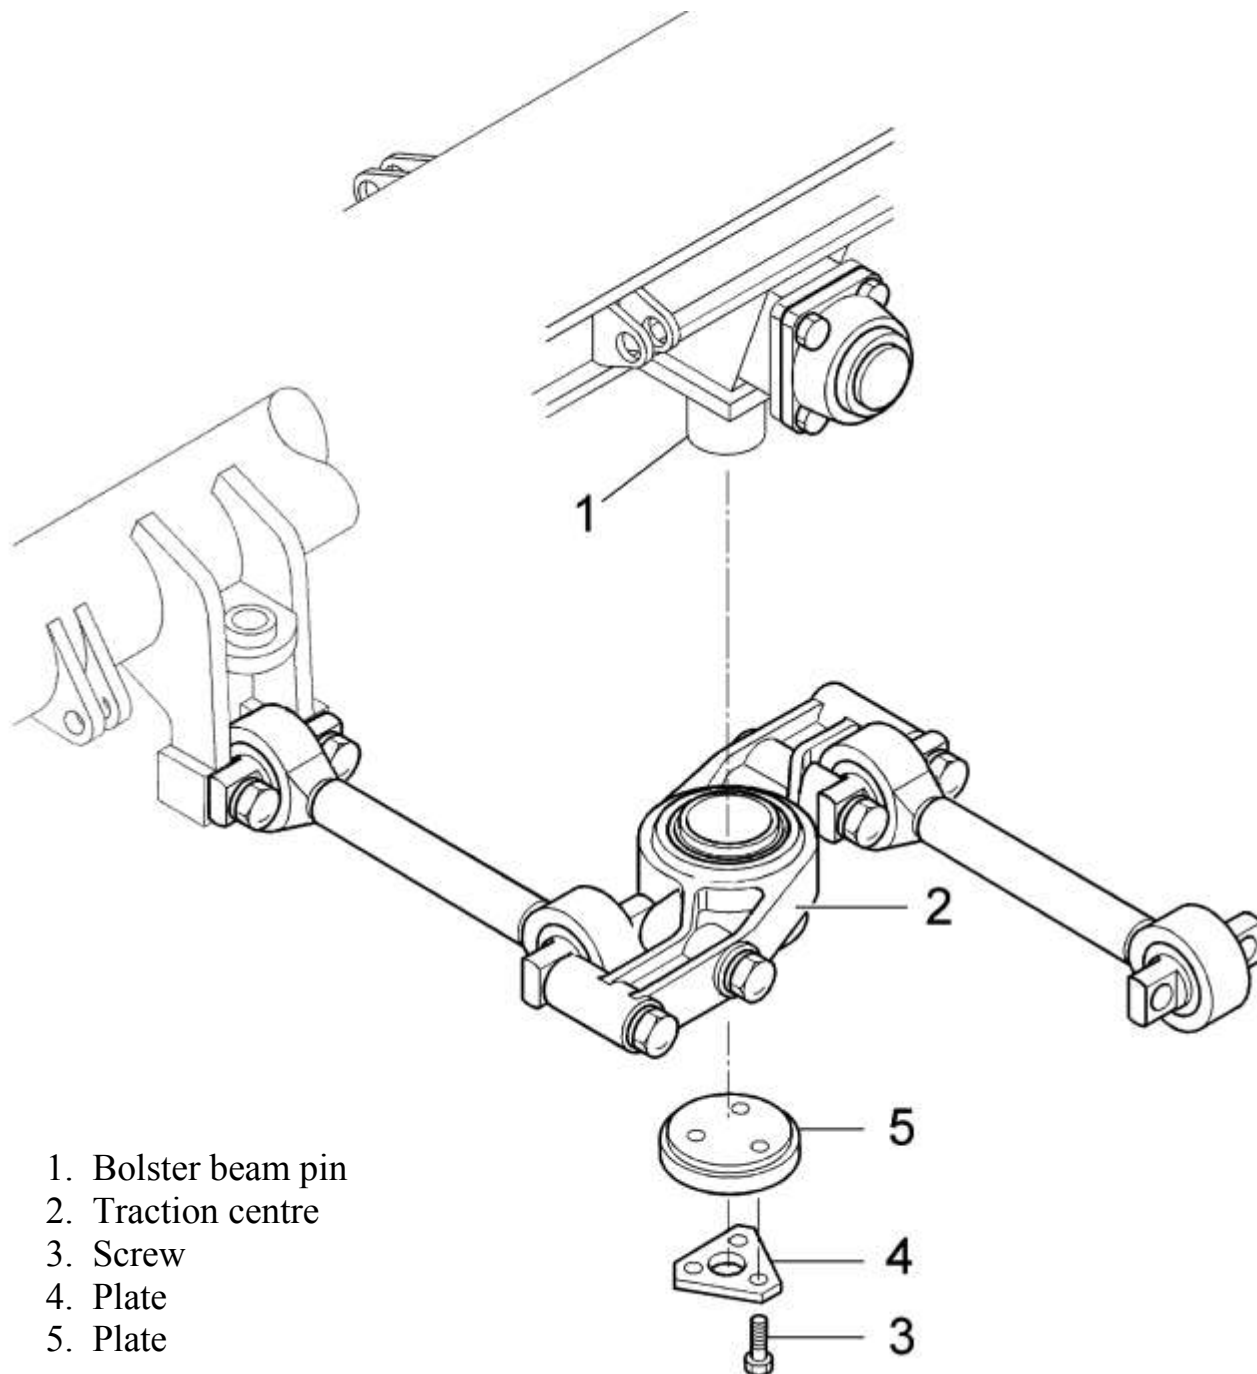

FIG. 4.23 **Disconnection from the Traction Centre**
After pressing the bolster beam, as described in para. 4.3.1.2, disconnect the bolster beam central pin (1 - FIG. 4.23) from the traction centre (2): extract the screws (3) which fix the plates (4) and (5).